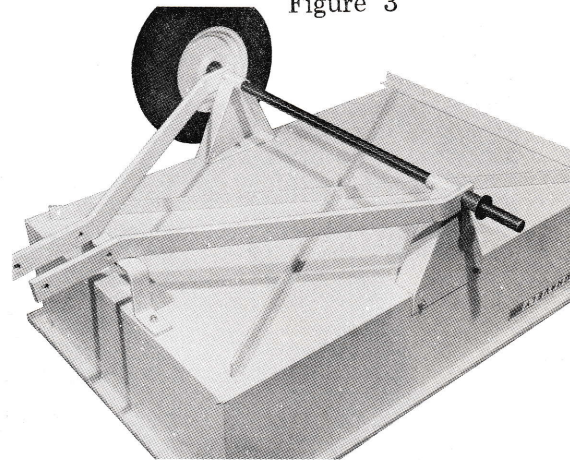

Figure 4
4. Insert the axle through the axle supports. On each end of the axle, place drawbar brace, spacer, and washer as shown in Figure 4.